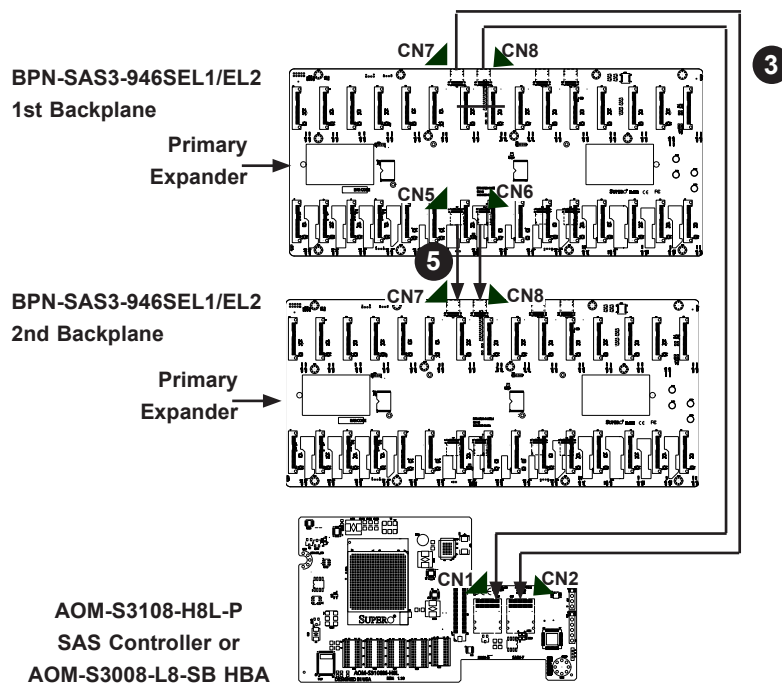

Figure C-4. Backplane Cascading Configuration (EL1 Version)
3. Plug the cables into connectors CN7 and CN8, then route the cables to connectors CN1 and CN2 on the underside of the AOM-S3108-H8L-P SAS controller as illustrated in Figure C-4.
5. Connect the cables to CN5 and CN6, then route them to CN7 and CN8 on the underside of the 2nd backplane as illustrated in Figure C-4.